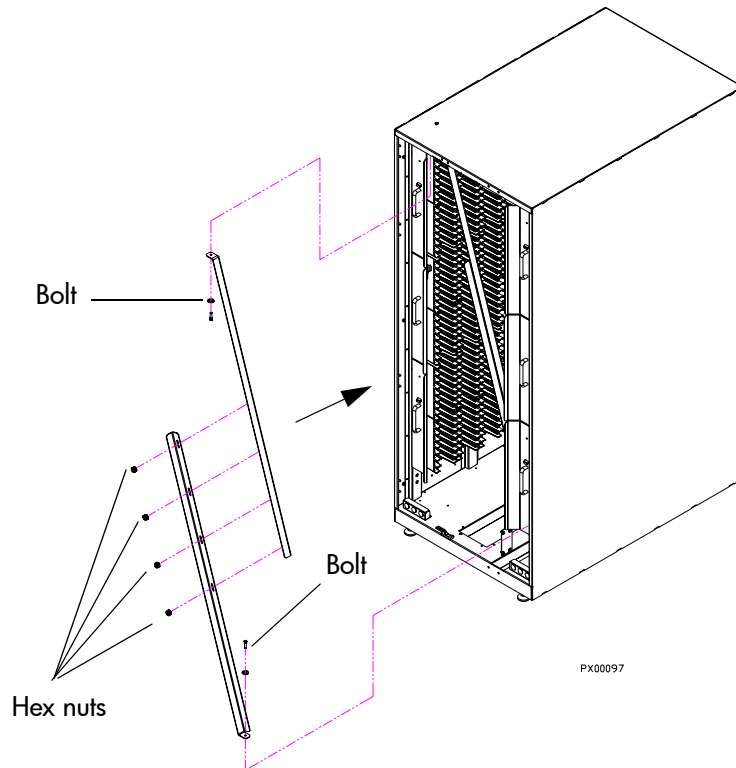

Figure 40: Installing the internal library frame restraint
7. Locate the two sheet metal pieces that form the internal library frame restraint and insert them as shown in Figure 40.